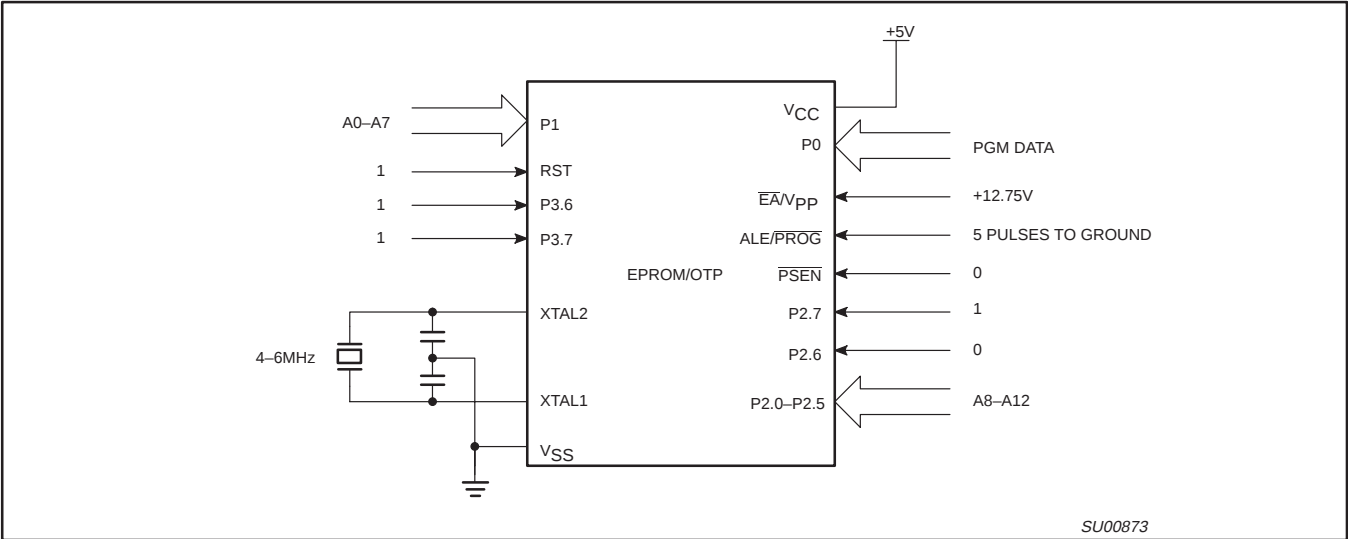
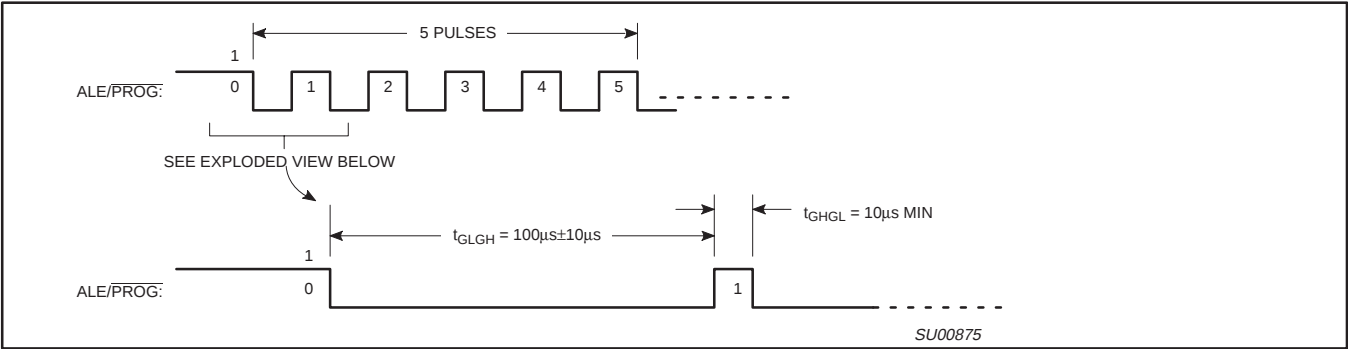
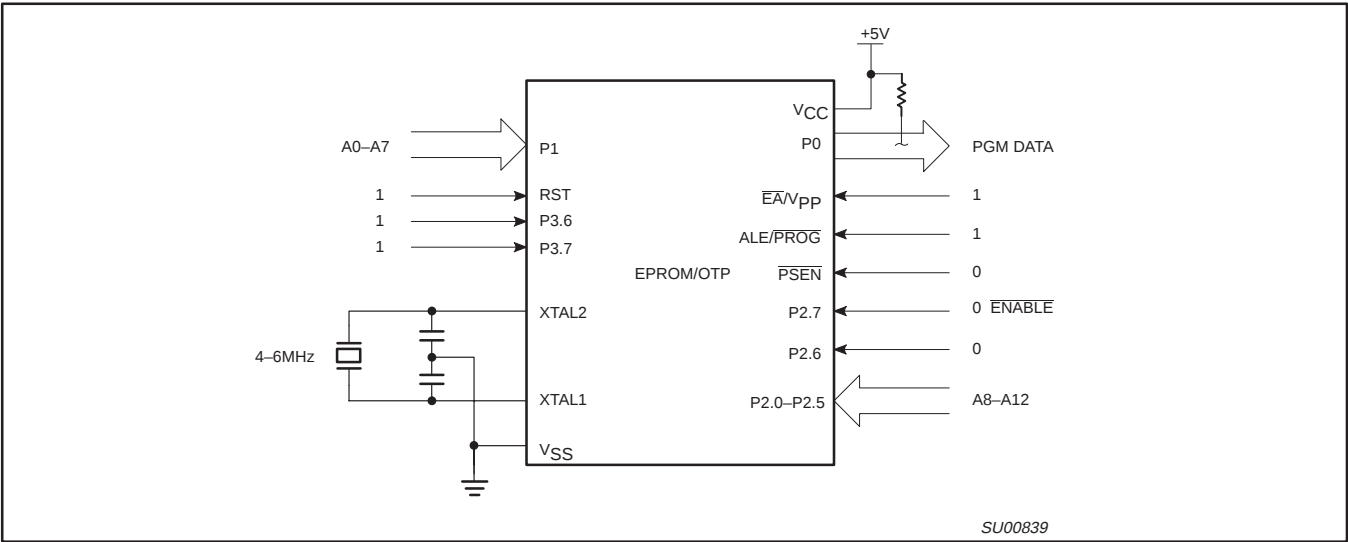

Figure 26. Programming Configuration
Figure 27. PROG Waveform
Figure 28. Program Verification
Table 8 shows the logic levels for reading the signature byte, and for programming the program memory, the encryption table, and the security bits. The circuit configuration and waveforms for quick-pulse programming are shown in Figures 26 and 27. Figure 28 shows the circuit configuration for normal program memory verification.
The setup for microcontroller quick-pulse programming is shown in Figure 26. Note that the device is running with a 4 to 6 MHz oscillator. The reason the oscillator needs to be running is that the device is executing internal address and program data transfers.
The address of the EPROM location to be programmed is applied to ports 1 and 2, as shown in Figure 26. The code byte to be programmed into that location is applied to port 0. RST, $\overline{PSEN}$ and pins of ports 2 and 3 specified in Table 8 are held at the 'Program Code Data' levels indicated in Table 8. The ALE/PROG is pulsed low 5 times as shown in Figure 27.
If security bits 2 and 3 have not been programmed, the on-chip program memory can be read out for program verification. The address of the program memory locations to be read is applied to ports 1 and 2 as shown in Figure 28. The other pins are held at the 'Verify Code Data' levels indicated in Table 8. The contents of the address location will be emitted on port 0. External pull-ups are required on port 0 for this operation.
- * FOR PROGRAMMING CONFIGURATION SEE FIGURE 26.
FOR VERIFICATION CONDITIONS SEE FIGURE 28.